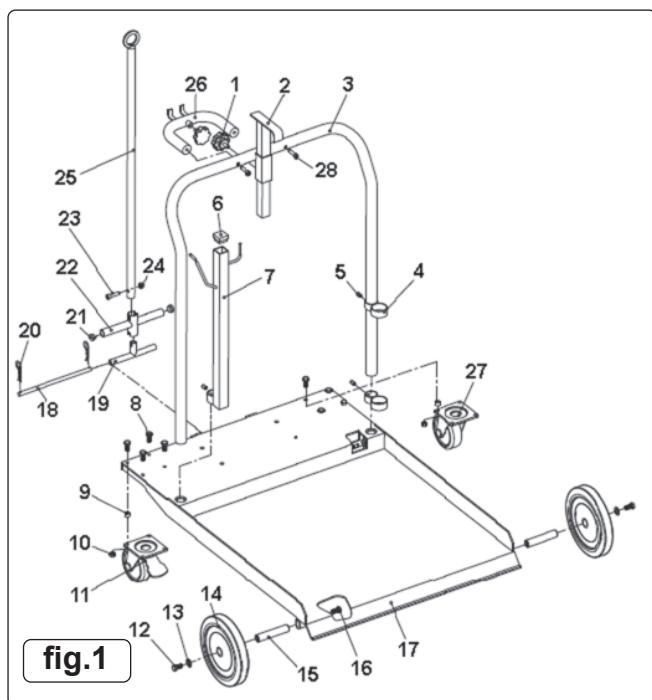
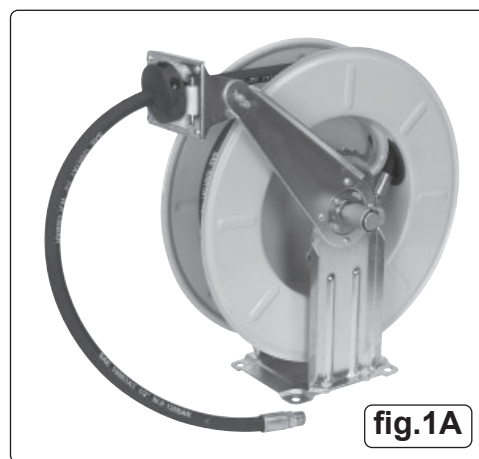

fig.1
fig.1A
4.1. TROLLEY ASSEMBLY (FIG.1)
- 4.1.10. Place the AK4567D retractable hose reel (fig.1A) onto the back of the base plate and secure using four bolts, washers and nuts (not shown in fig.1).
- 5.1.2. With the nozzle pointing into the receiving container, open the nozzle valve as shown in fig.1.